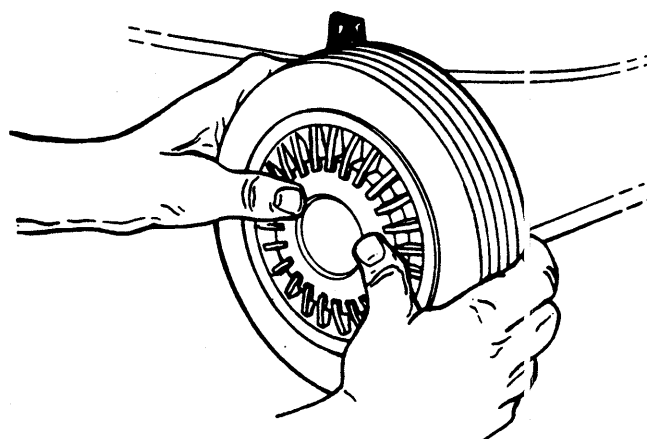

FIGURE 9.—Optional Hub Caps
2. If your mower is equipped with 2" wide tires, place hub caps in position against the inner hub of the wheel. Press firmly around the center portion of hub cap in a circular motion, similar to installing a lid on a round, plastic container. See figure 9